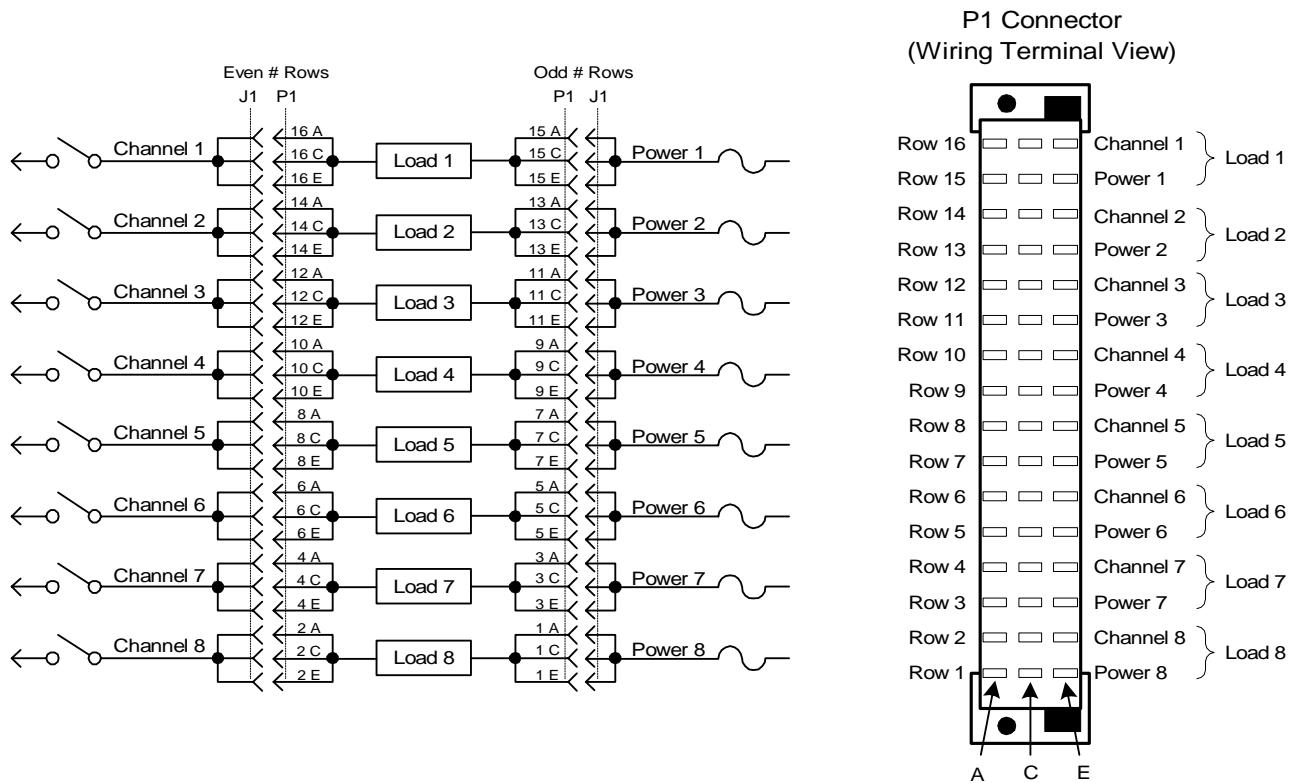
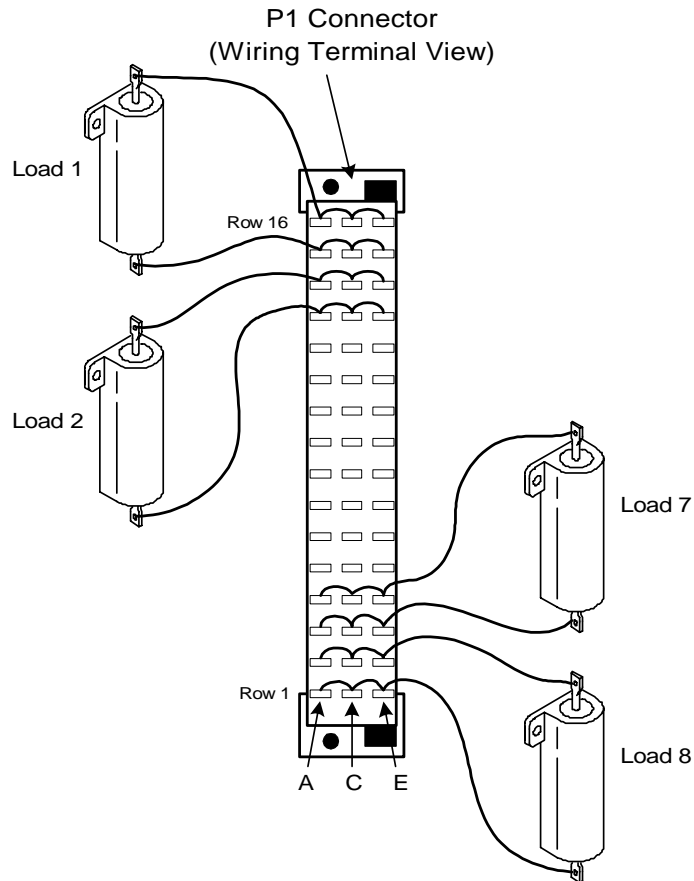

Figure 3-15. HP E6175A Load Wiring Schematic and P1 Pinouts
Figure 3-16. HP E6175A Current Sharing Example
Figure 3-15 is a simplified schematic and P1 connector pinout showing how loads are connected to P1. Load 1 connects to Channel 1 (P1 row 16) and Power 1 (P1 row 15); Load 2 connects to Channel 2 (P1 row 14) and Power 2 (P1 row 13), and so on.
**Caution** To prevent premature pin failure from excessive current flow, when connecting high-current (>3 amp) loads to P1, wire across all three pins in each row (see Figure 3-16 on page 52).
Notice in the wiring schematic (Figure 3-15) that pins A, C and E in each row of J1 are connected together on the PC board. When connecting high-current (>3 amp) loads, wire across all three pins in each row of P1 (see Figure 3-16). This ensures current sharing across all pins and prevents premature pin failure from excessive current flow.